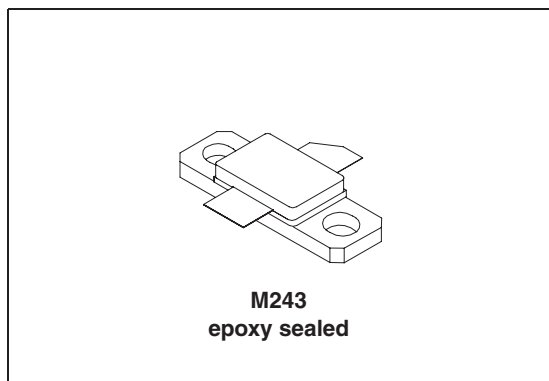

Figure 1. Pin out
(1) Measured on Mini-Circuits Characterization test board TB-641-1+. See Characterization Test Circuit (Fig. 1)
**Fig 1.** Block Diagram of Test Circuit used for characterization. (DUT soldered on Mini-Circuits Characterization test board TB-641-1+) Gain, Return loss, Output power at 1dB compression (P1 dB) , output IP3 (OIP3) and noise figure measured using Agilent’s N5242A PNA-X microwave network analyzer.